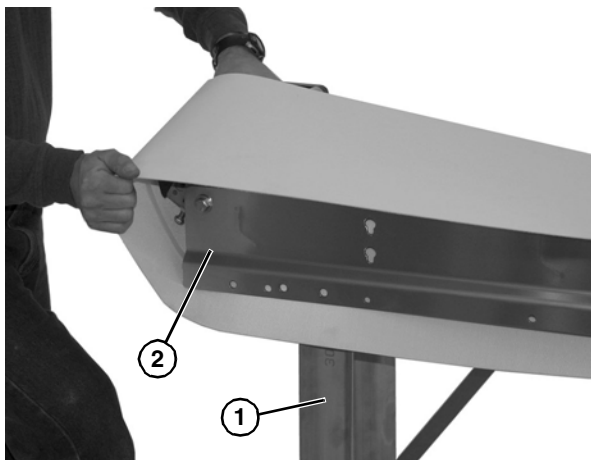

Figure 11
3. Position the belt under the stand (**Figure 11, item 1**) on the conveyor (**Figure 11, item 2**).